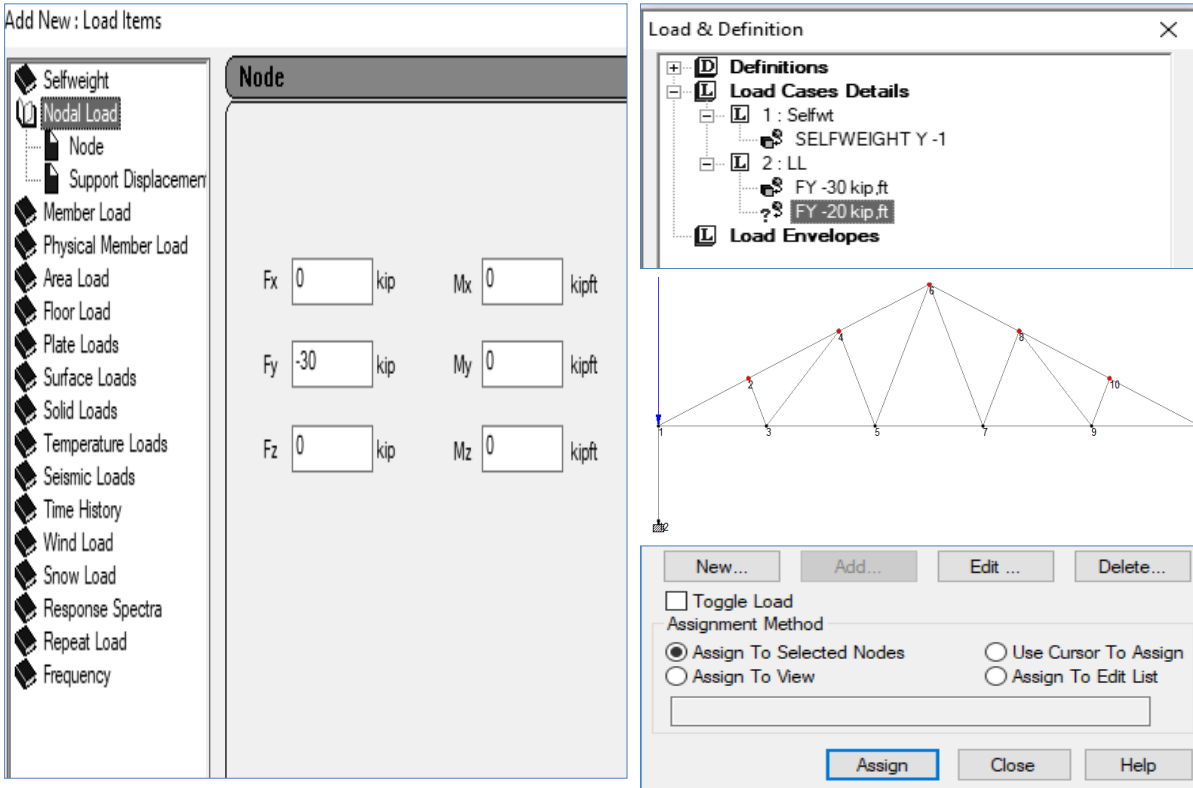

Fig: 4.11
- For Given loads: Again Live Load or LL → Add → Nodal Load → Fy = -30 kip → Add → Fy = -20 kip → Add → Close, then click on defined force and select the required Nodes → Assign to selected Nodes → Assign → Yes. (Fig: 4.11)